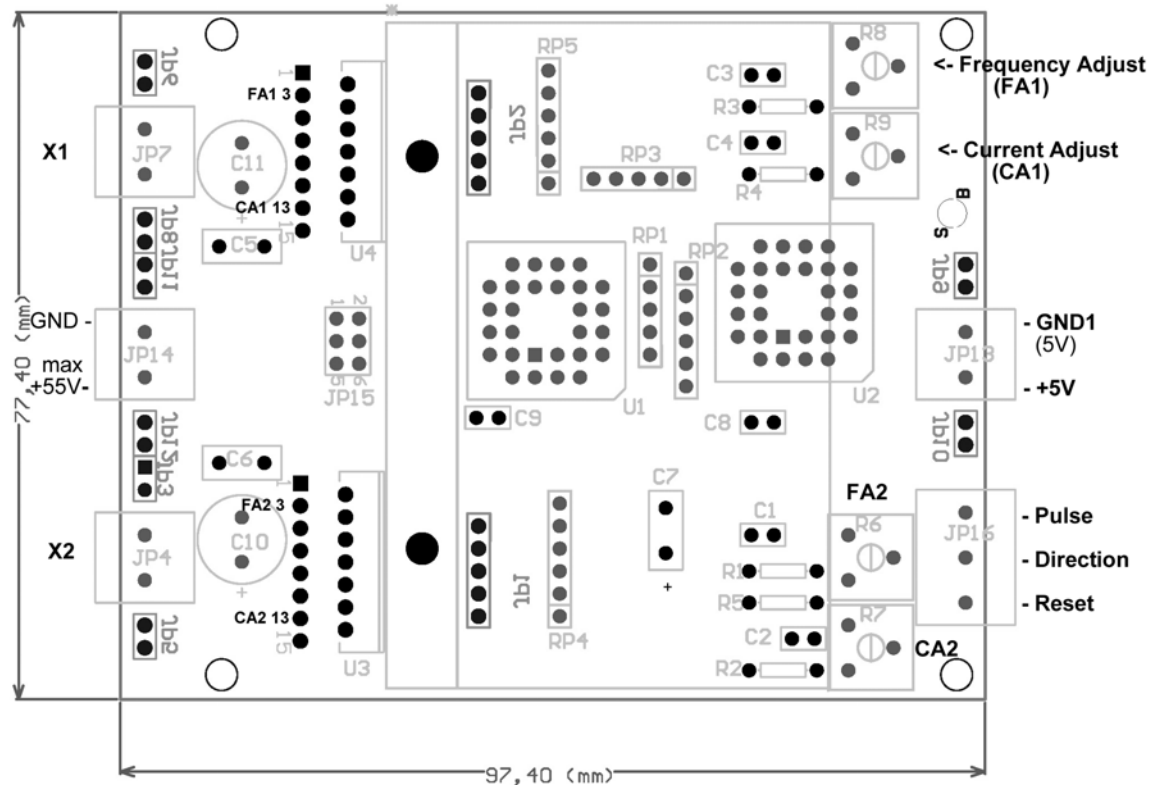

Figure 1
1. Start with the small components i.e. resistors, resistor networks (the common of the network is signed with a dot, the dot should be placed in the square i.e. see Fig.1 RP5), the small capacitors and JP15.
- Connect a voltmeter between leg 3 of the LMD (FA1 3 or FA2 3 fig.1) and GND1 on the card. Measure the resistance between the connections and adjust it to 20k $\Omega$  by turning R8 (FA1 fig.1) or R6 (FA2 fig.1) depending on which LMD you connected to. Do the same with the other LMD.
- Connect a voltmeter between leg 13 of the LMD (CA1 13 or CA2 13 fig.1) and GND1 on the card. Measure the resistance between the two points and adjust it to the needed value by turning R9 (CA1 fig.1) or R7 (CA2 fig.1) depending on which LMD you connected to. Do the same with the other LMD.
- The stepper resolution can be selected by short circuit jumper JP15 (fig.1)
- Connect the card to the power sources. The +5Volt and its GND to the +5 Volts and GND1 of the card and the +30...+55 Volt source and its GND to the +55Volt and GND of the card (see fig1).
In general Uni-polar stepper motors have six connections. To use a uni-polar motor with a bi-polar stepper motor card the middle connections need to be isolated and not used. The proper connection to the card is: a and b of winding 1 connected to X1 (see fig.1) and a and b of winding 2 to X2. Connections 1 and 2 of the stepper motor need to be isolated.
For stepper motors with four leads it's easy to connect them to the SB-Microstep card. Just connect 1a and 1b with X1 and 2a and 2b with X2 (see fig.1).
For stepper motors with eight leads there are 2 ways of connecting the leads. The first one is the serial connection. In that case the leads 1a and 1d are connected with X1 (see fig.1) while 1c and 1d are connected to each other. In the same way 2a and 2d are connected to X2 while 2c and 2d are connected to each other. Generally this method is used when low torque and high speeds are wanted. The current, in this case, is the same as used for one winding.